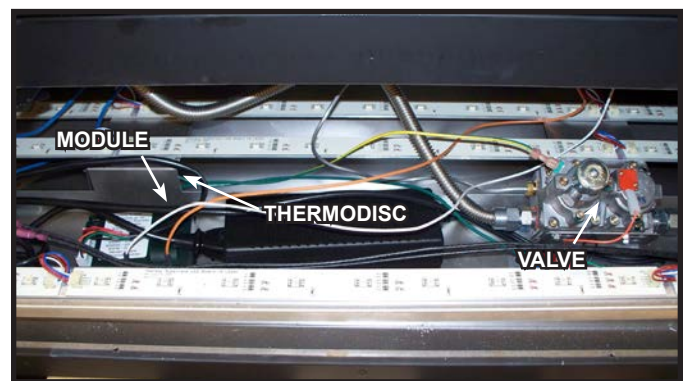

Figure 12.2 Valve Cavity
**Note:** If the fan is moved from one side to the other, the valve, all electrical components, including the thermosdiscs, must also be moved to the opposite side of the appliance. See appropriate configuration in relation to the valve in Figures 12.2 and 12.3. In addition, two jumper wires will be required between the two 107-559a wire harnesses that plug into the junction box. These wires must be 24 inches in length, made from 14 gauge AWG wire (or equivalent), have a 1/4 inch male insulated terminal at each end and be made by a licensed electrician following all local electrical codes.